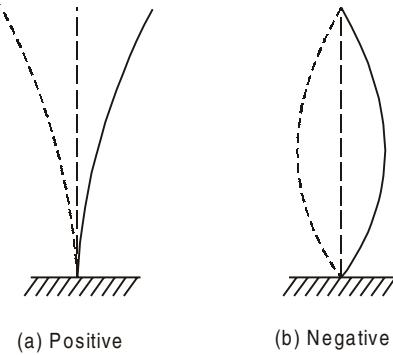

Fig. 7.7
2. A moment, which tends to bend the column with its concavity towards its initial central line (Fig. 7.7 b) is taken as negative.